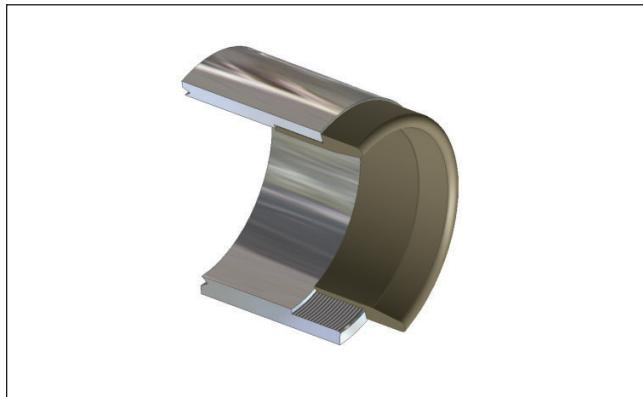

Figure 2-16. Thread protection installation tool cutaway view
- 2. Nick and Cut Protection.** Threads, sharp corners and burrs can damage the seal. Care should be taken to avoid contact with these surfaces. Burrs must be removed, sharp corners should be blunted or radius, and threads should be masked or shielded with special insertion tooling (see Figure 2-16). Although it is good practice to take extra care in the handling and manipulation of the seal, this